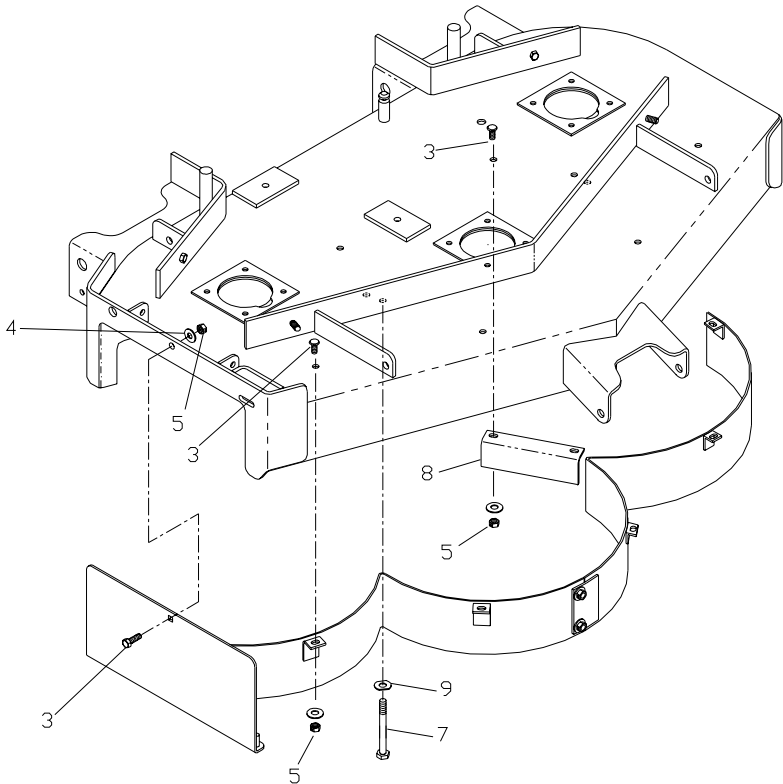

FIGURE 2
Step 3: With the discharge chute up and the two sections bolted together, place this baffle assembly up under the deck and install the carriage bolts (item 5) thru the bottom. (see fig. 2)
Step 4: Using the two 5/16C x 4 1/2" bolts (item 9), flanged washers (item 11), and center lock nuts (item 7), fasten the 'V' of the baffle to the deck. (see fig. 2) The flanged washer should be turned so the lip catches the front of the 'V' on the baffle.
Step 5: Using a 5/16C x 1" bolt (item 4), nut (item 7), and washer (item 6) fasten the discharge cover plate to the deck. (see fig. 2)
Step 6: Install the dividers (item 10) on both sides. (see fig. 2)
Step 7: Install the mulching blades (item 8). Rotate the blades by hand and check for clearance of all baffles and deflectors.